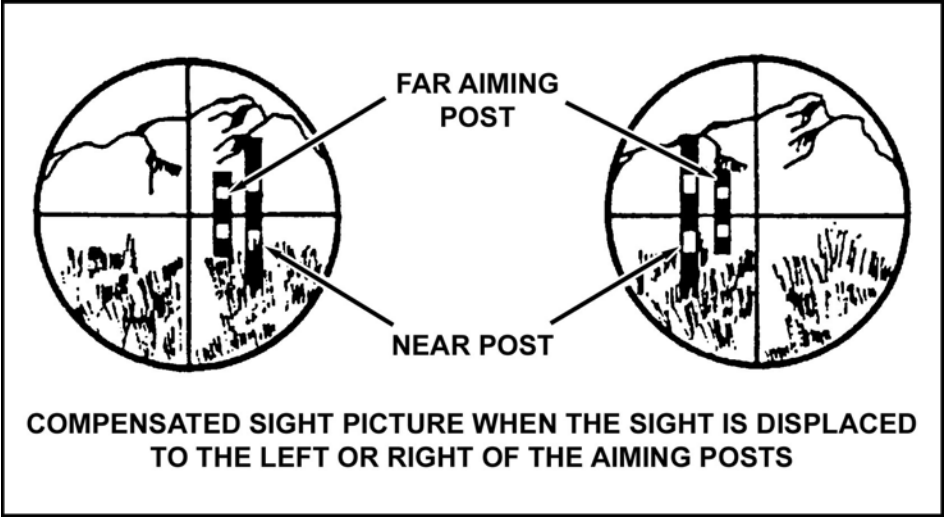

Figure 3. Compensated Sight Picture
- (11) The gunner moves the mortar and aligns the sight approximately on the aiming posts.
- (12) The gunner takes up the proper compensated sight picture (Figure 3) and fine-levels the sight.